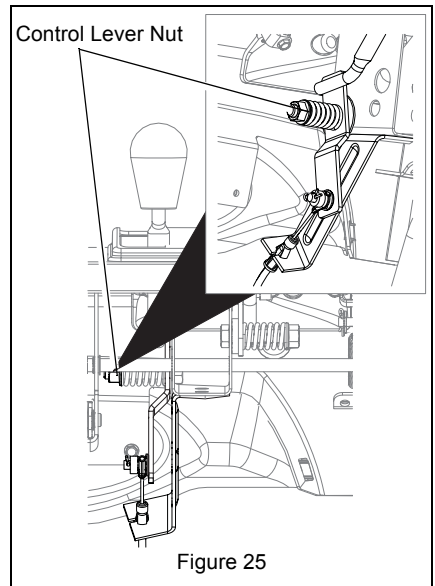

Figure 25
(Figures 25 and 26)
1. Tighten nut beneath control panel to increase pressure on deflector control. (Figure 25).